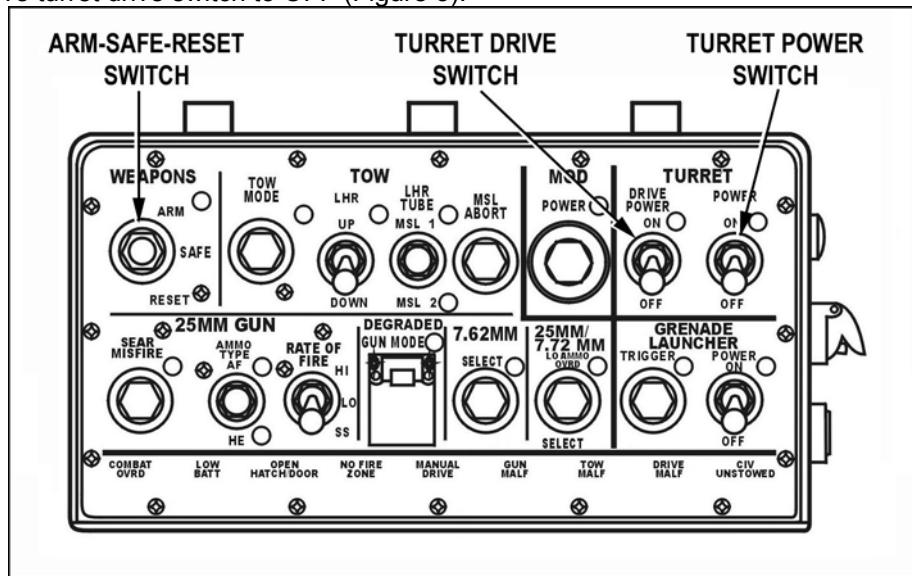

Figure 3. TURRET POWER and DRIVE switch.
- (1) If any annunciator lights come on go to step d.
- (2) If no annunciator lights come on go to step k.
- e. Move turret drive switch to OFF (Figure 3).